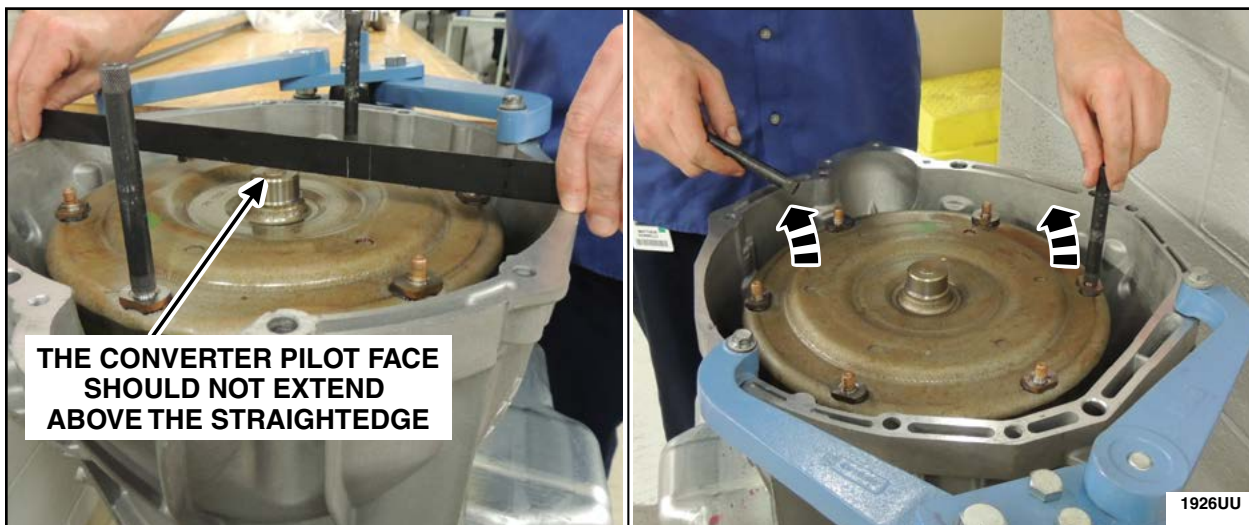

FIGURE 52
50. Check the seating of the torque converter. See Figure 52.